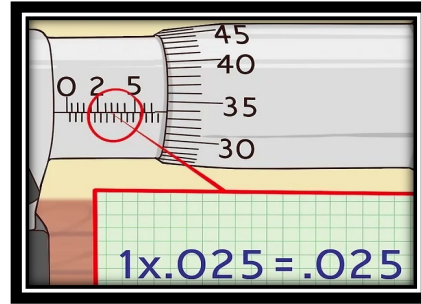

Fig 3
3. Read how many lines come after the whole number. Look at the individual markings exposed next to the 100 thousandths and multiply each marking by .25.. In this case $1 \times .025$ would be .025. (FIG 3)